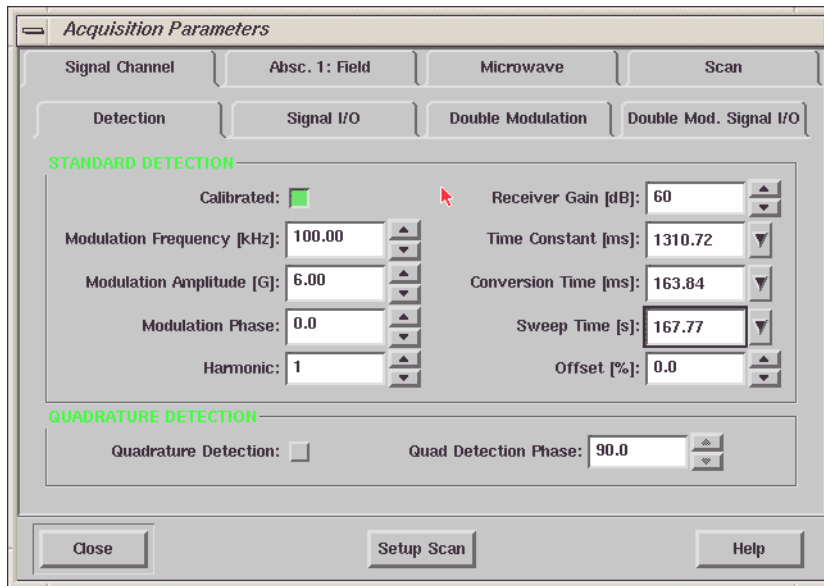

Figure 3-7 Setting the Signal Channel parameters.
7. **Set the Signal Channel parameters.** Click the Signal Channel tab to bring the folder to the front. Set the parameters to those shown in Figure 3-7 or consult Table 3-1. If the Receiver Level meter is off center, change the Offset to bring the needle back to the center.